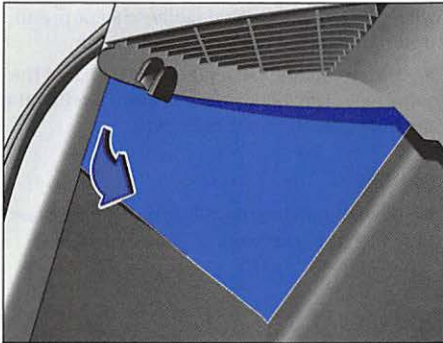

Fig. 40 Removing the tail light
- Use the flat blade on the screwdriver and pry the cover off in direction of the arrow carefully ⇒ fig. 40 -left illustration-.
- Use the flat blade on the screwdriver and pry the cover off in direction of the arrow carefully ①.
- Using the open ended wrench (13 mm A/F), unscrew and remove the nuts ②.
- Hold the tail light firmly with one hand to prevent it from falling from the side section when fastening. Place the nuts ⇒ page 97, fig. 40 ② on the screws and tighten the nuts firmly using an open-ended wrench.
- Plug the connector ① into the socket until it engages with an audible click.